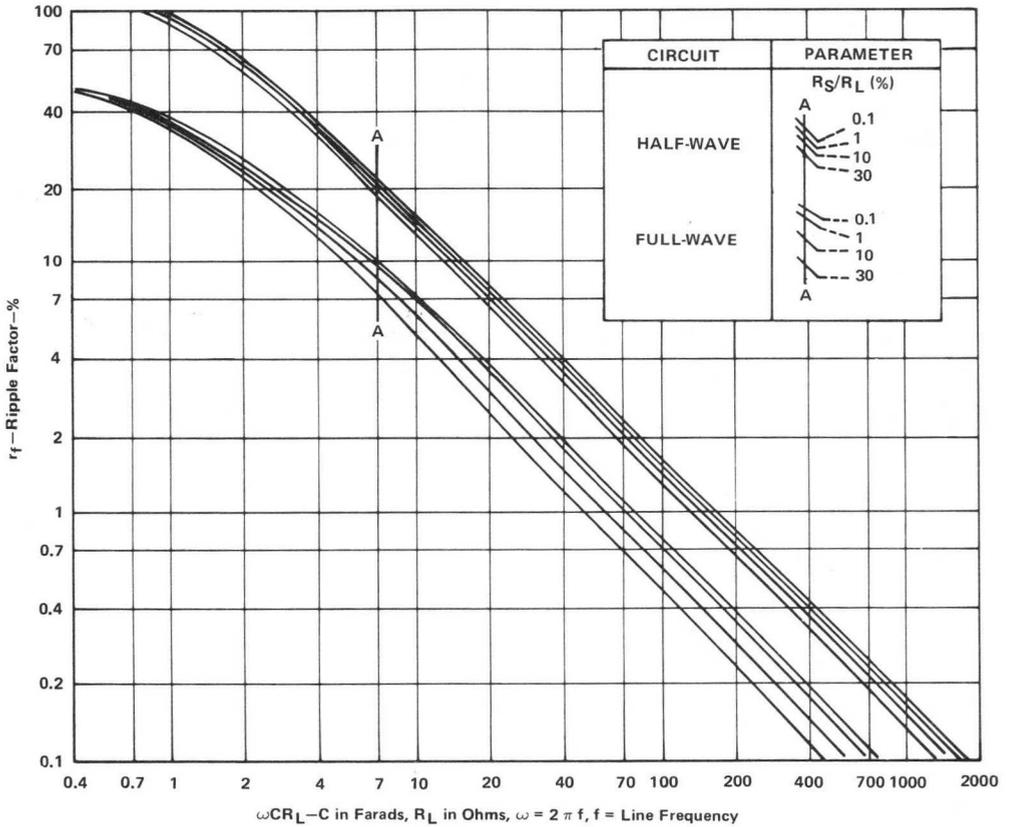

Figure 7.7. Root-Mean-Square Ripple Voltage for Capacitor-Input Circuits
Figure 7.7 shows the relationship of the ripple factor r_f , ωCR_L , and R_S/R_L . The ripple factor (r_f) is the ratio of the RMS value of the ripple component of the output voltage expressed as a percent of the absolute dc output voltage. Expressed in terms of the input requirements of the regulator control circuit:
6. From Figure 7.7, determine the range of ωCR_L for R_S/R_L equal to 0.1% to 30%.
8. With the tightened range of R_S/R_L , refer again to Figure 7.7 to further define the acceptable range of ωCR_L .